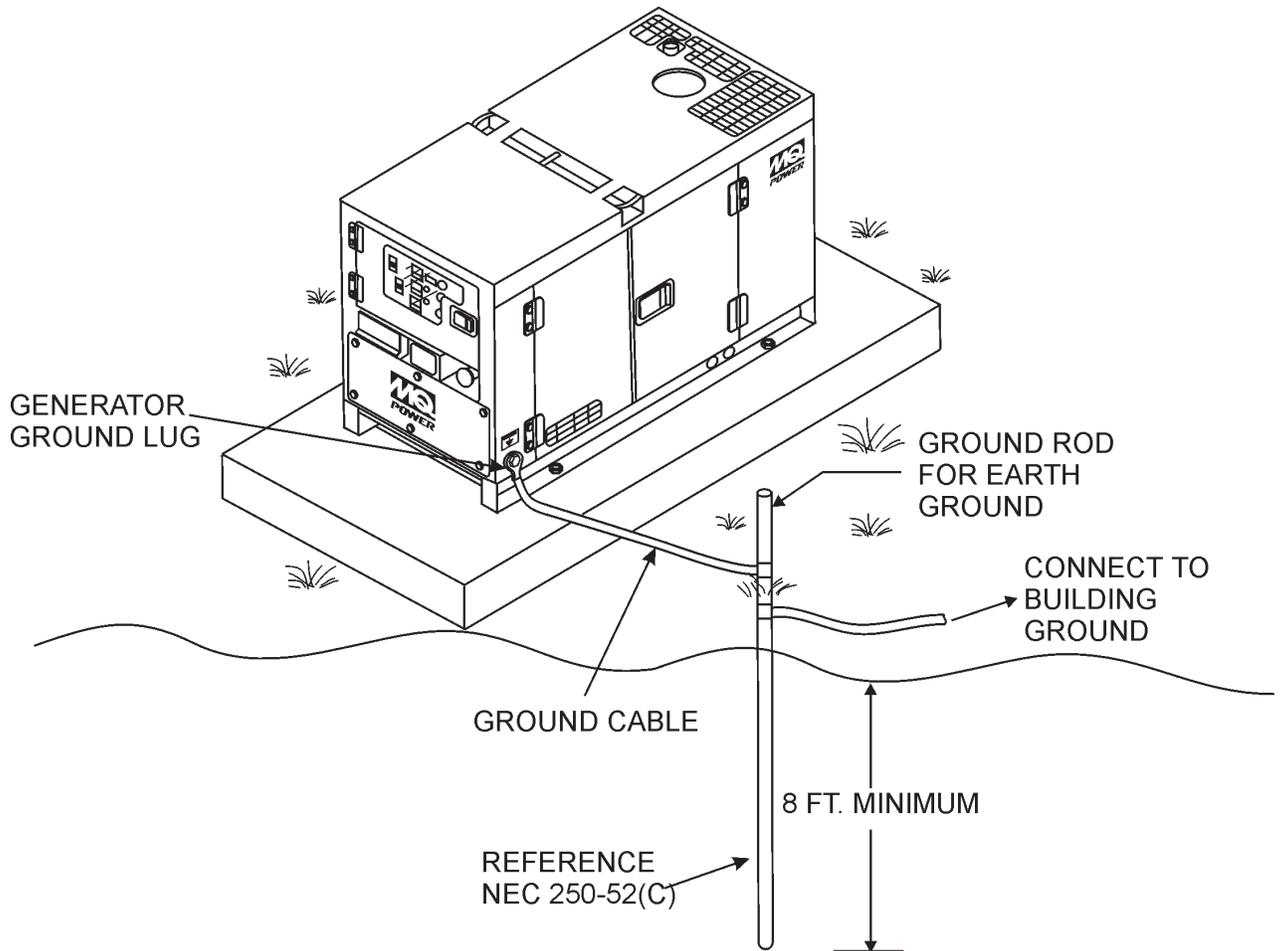

Figure 38. Typical Generator Grounding Application
2. When grounding the generator (Figure 38) connect the ground cable between the lock washer and the nut on the generator and tighten the nut fully. Connect the other end of the ground cable to earth ground.